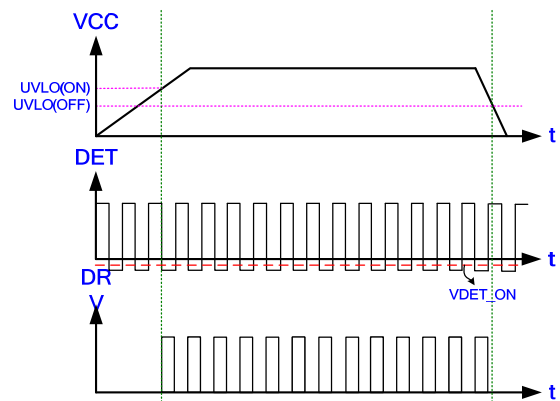

Fig. 15
An UVLO comparator is implemented in it to detect the voltage on the VCC pin. It will assure the supply voltage enough to turn on the LD8526U1 controllers and further to drive the synchronous rectifier. As shown in Fig. 15, the UVLO(ON) and UVLO(OFF) are 3V and 2.8V respectively.